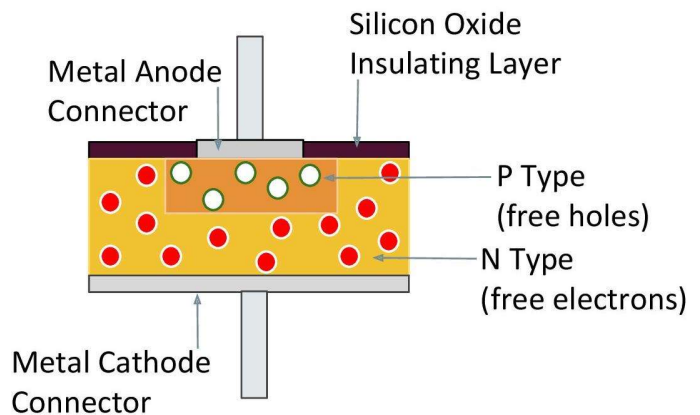

Figure 11c: construction of diode
1. The diode consists of a N-type substrate on which a P-Type layer is grown as shown in *Figure 11c*.